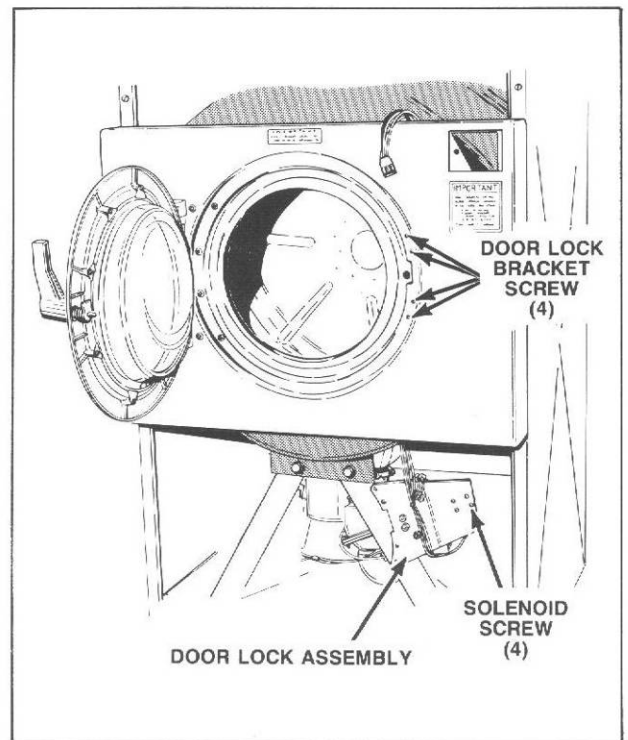

Figure 15
- e. Hold wire harness, open loading door and remove four screws holding door lock assembly bracket to front panel, *Figure 15*.
- f. Lower complete assembly (by use of wire harness) and remove through air intake grille opening, *Figure 15*.
- h. Remove four screws holding solenoid to bracket, *Figure 15*.